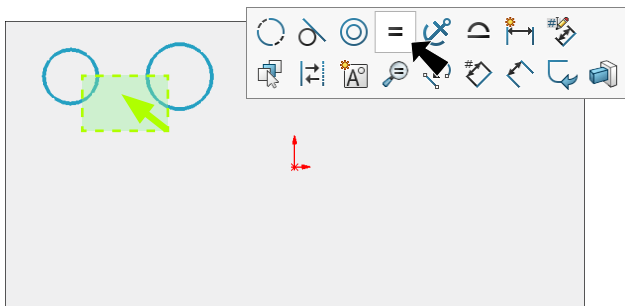

Fig. 24
Step 6. **Drag selection to left to select both circles** and click **Make Equal**  on the context toolbar, **Fig. 24**.